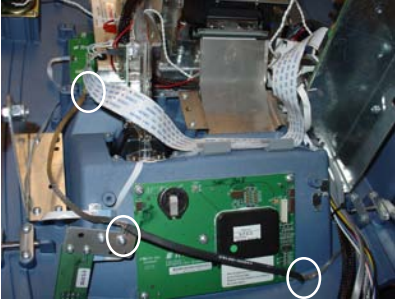

Figure 10. Disconnect ground harness.
8. Disconnect the ground harness cable from the three (3) screws shown in Figure 10. Lay the harness out away from the SPED board.